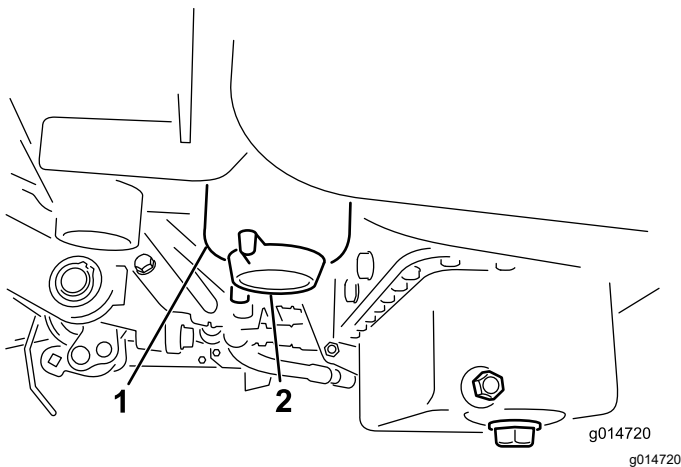

Figure 35
2. Clean the area where the filter canister mounts (Figure 35).
4. Open the filter drain plug (Figure 35).